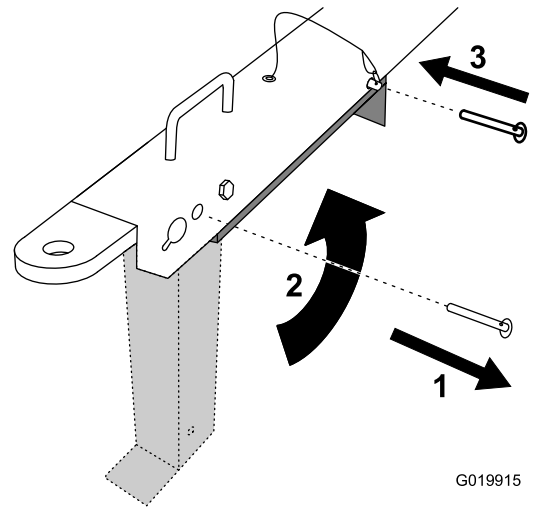

Figure 21
7. Pull the clevis pin out from the front stabilizer leg and the tongue (Figure 21).
8. Rotate the front stabilizer leg up into the tongue (Figure 21).
9. Push the clevis pin through the rearward hole in the tongue and the front stabilizer leg (Figure 21).